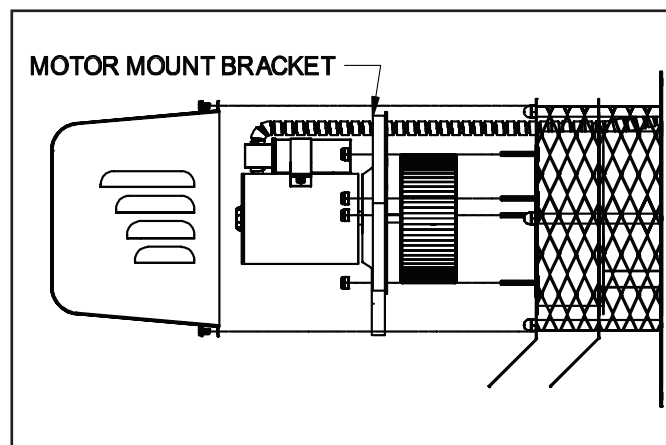

Figure 20
4. Remove the four nuts securing the motor assembly, and pull the motor assembly straight off of the unit. (See Figure 20)